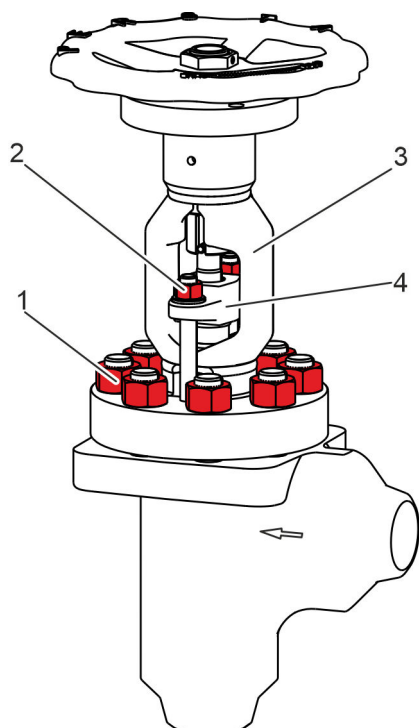

Fig. 34: Screwing on nuts
- 34.** Loosely screw the nuts (Fig. 34/1) with the stud bolts into the body.